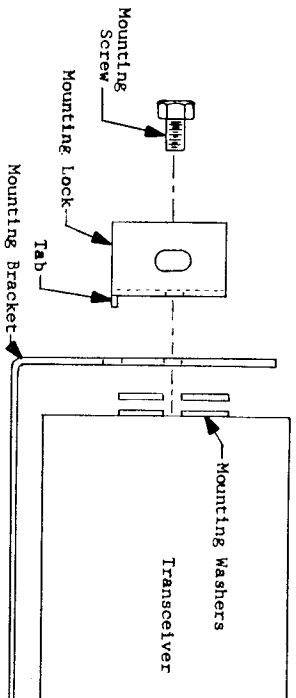

Figure 2
- Secure the mounting lock to the unit using one of the hex head mounting screws supplied. Be sure that the screw passes through the correct hole in the mounting bracket (See Figure 2).